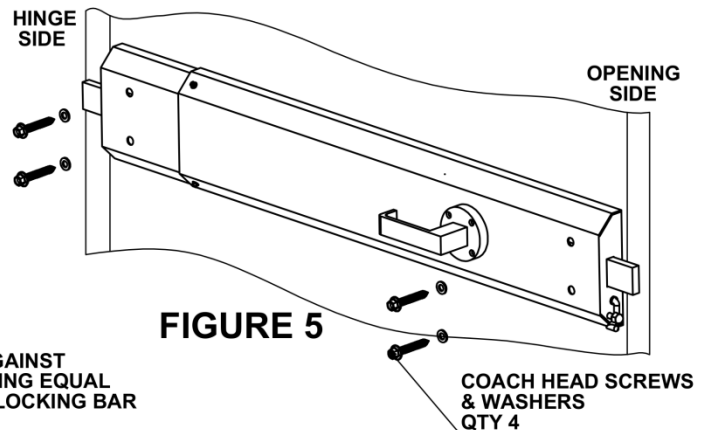

FIGURE 5
17. Fit lock to door with the four coach screws & washers. Tighten all screws. Do not over tighten. (Fig. 5)